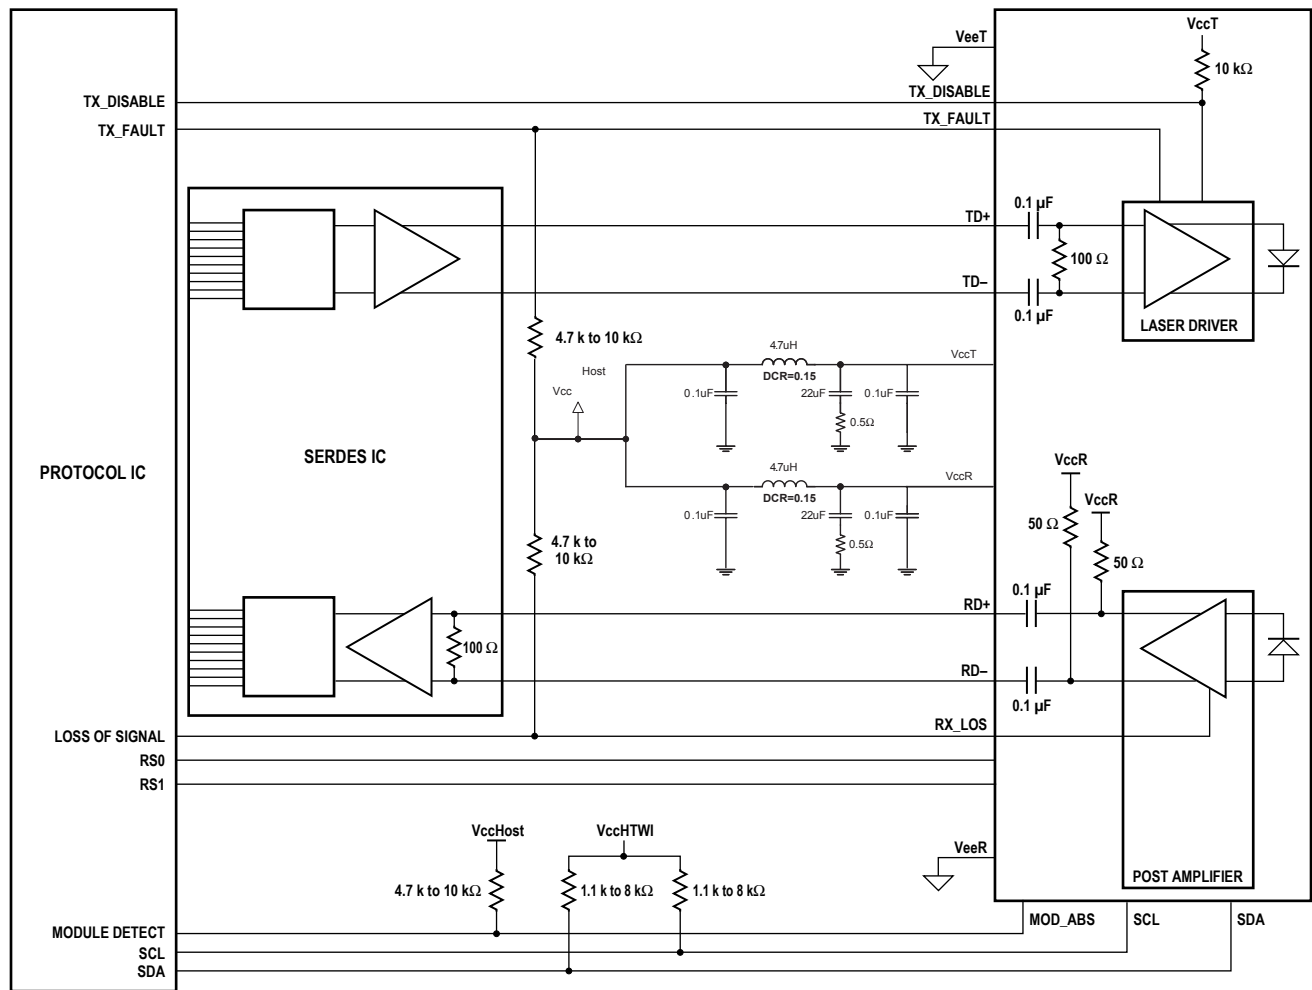

Figure 2. Typical application configuration
Figure 2 depicts the recommended interface circuit to link the AFBR-700SDZ to supporting physical layer ICs. Timing for the dedicated SFP+ control signals implemented in the transceiver are listed in Figure 6.
2. This is an open collector/drain output that on the host board requires a 4.7 k $\Omega$  to 10 k $\Omega$  pullup resistor to VccHost. See Figure 2.